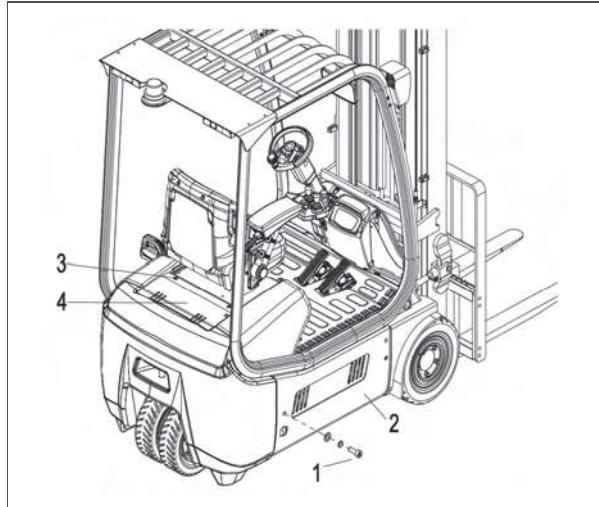

Figure 5-10 Right Cover
2. Remove the four screws (1, Figure 5-10).
3. Remove the right cover (2).
4. Remove the two screws (3).
5. Remove the back cover (4) from the bracket.